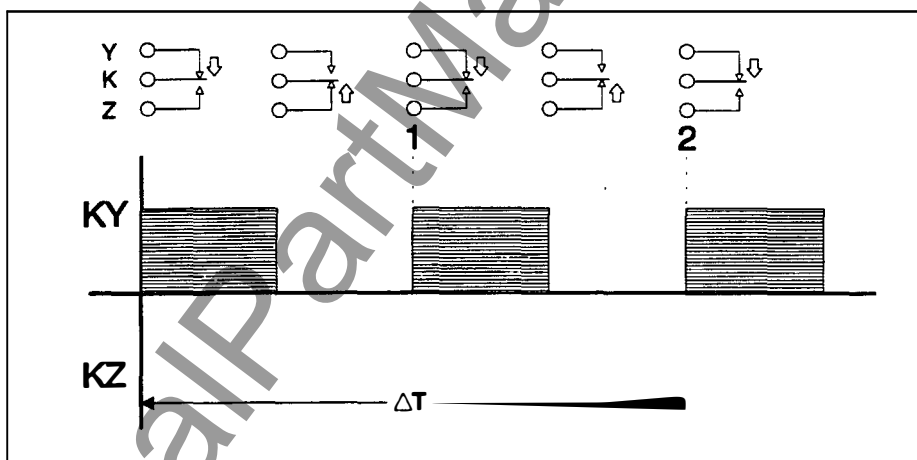

Figure 6-4: 2-wire pulse train
Most energy management system digital inputs use only two of the three wires provided with a KYZ pulse initiator. This is referred to as a 2-wire pulse initiator application. Figure 6-4 shows a pulse train from a 2-wire pulse initiator application. Refer to this figure when reading the following points:
- In figure 6-4, the transitions are marked as 1 and 2. Each transition represents the time when the relay flip-flops from KZ to KY. At points 1 and 2, the receiver should count a pulse.